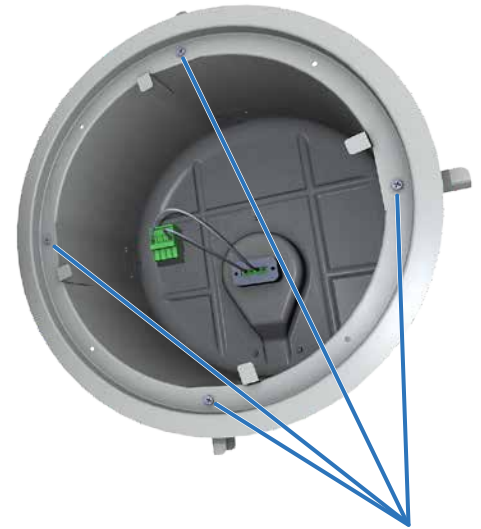

Figure 10. Turning the can clamp actuators clockwise securely locks the back can into the ceiling.
5. Locate the four Phillips-head can clamp actuators around the perimeter of the back can's front flange (see Figure 10). Using a #2 Phillips screwdriver twist each actuator clockwise until you feel resistance as the can clamp presses against the ceiling.
3. Locate the four Phillips-head can clamp actuators around the perimeter of the back can's front flange, and using a #2 Phillips screwdriver twist each actuator clockwise until you feel tension as the clamps securely lock the back can to the ceiling (Figure 10). The back cans leave the Community factory with these clamps fully open (so that approximately 1.5" / 38 mm thick ceilings can be accommodated).